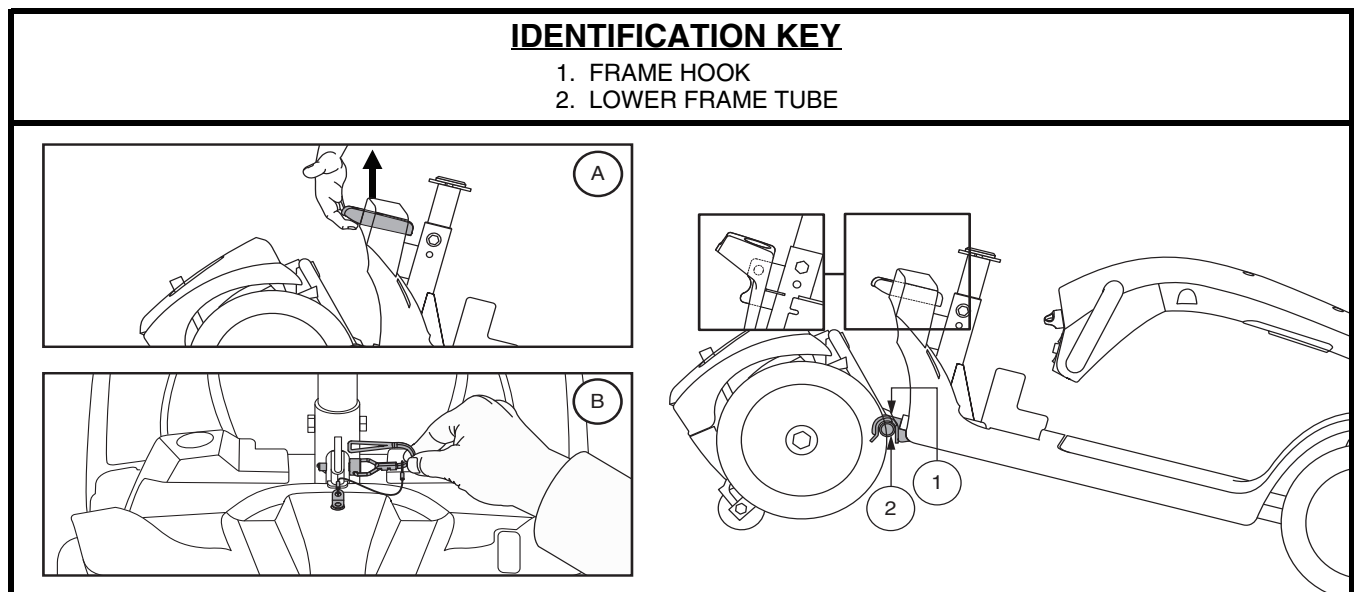

Figure 22. Frame Release Lever (Style A) and Frame Release Lockup Pin (Style B)
3. Remove the frame lockup pin (Model 104 only.) See figure 22.
1. Position the front and rear sections of your scooter as shown in figure 22.
2. Use the frame release lever (**or the seat post for model 104**) to lift the front section as you align the frame hooks of the front section with the lower frame tube of the rear section. See figure 22.